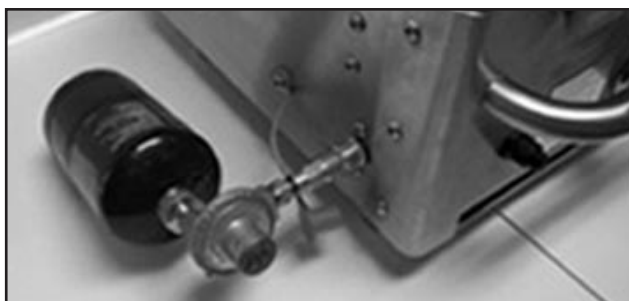

Figure 7.
6. Completed cylinder assembly as shown. (Figure 7.)